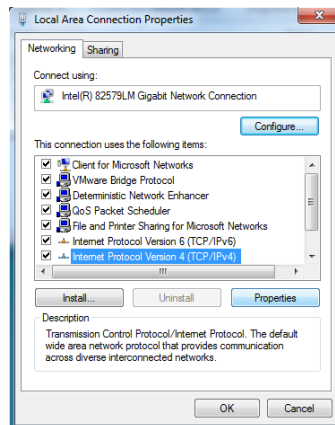

Figure 18 – Local Area Connection Properties
3. To view the ZedBoard embedded webpage, open a web browser (such as Firefox) and browse to the ZedBoard IP address <http://192.168.1.10/> as the URL. The ZedBoard webpage should open in the browser to display as seen in Figure 18.